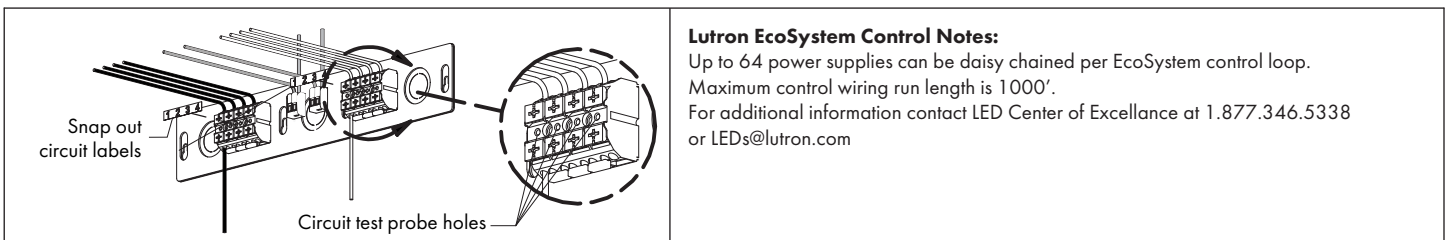

FIG 27.4 Accessing Circuit Probe Holes
STEP 3 Check circuit continuity using holes in terminal blocks - **FIG 27.4**.